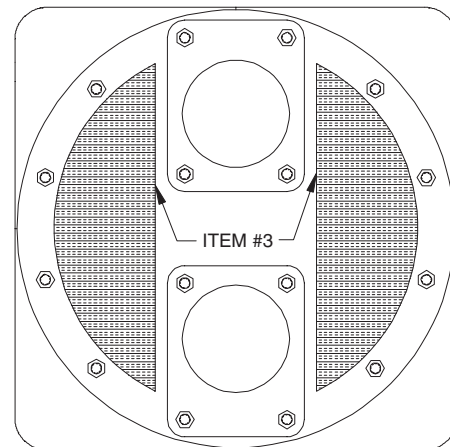

Fig. 14 — Head Spacers
1. Apply two spacer pieces (Item 3) to the face of the head, as shown in Fig. 14.